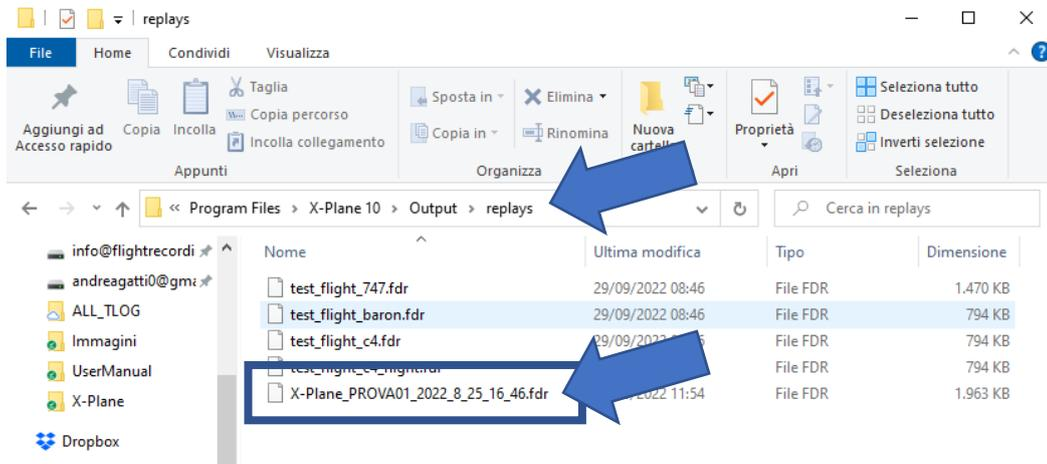

Figure 16: X-Plane replays folder
- 3 Locate the “replays” folder in your X-Plane installation folder. It should be under “C:\Program Files\X-Plane 10\Output\replays” as shown in Figure 16: X-Plane replays folder.